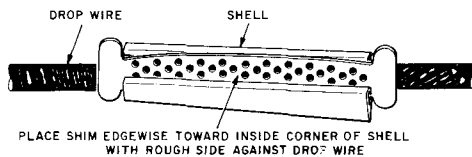

Fig 2 — Shim Placed Edgewise in Shell
2.02 Place the shell of the clamp on the wire with the small end pointing toward the hook. With the wire lying flat in the shell, insert the shim edgewise toward the inside corner of the shell with its rough side against the wire as shown in Fig. 2.